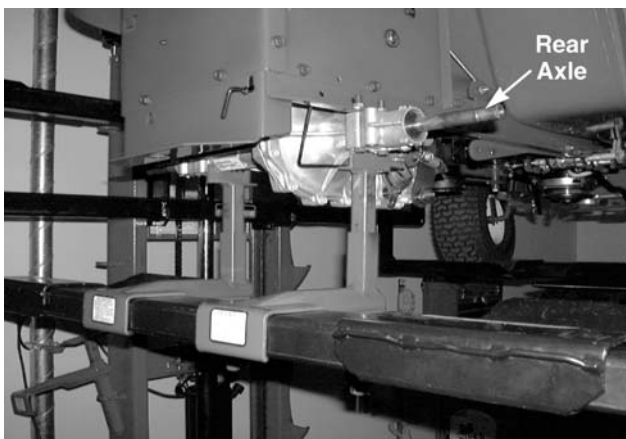

Figure 9-47
3. Remove both hex bolts and Belleville washers securing the rear wheel assemblies to the rear axles using a 1/2" socket and extension. See Figure 9-47.